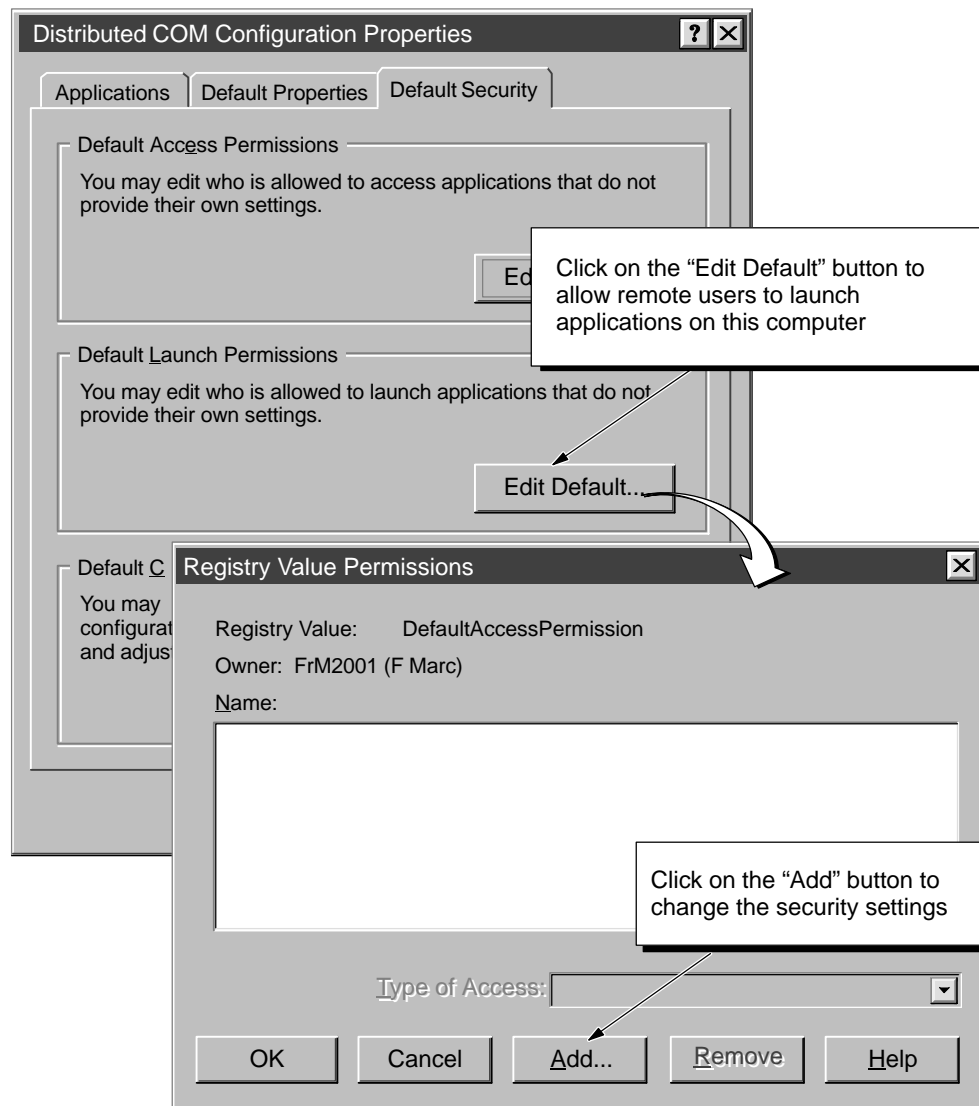

Figure E-17 Configuring the Default Launch Permissions for DCOM
1. Click on the “Edit Default” button for “Default Launch Permissions” to display the “Registry Value Permissions” dialog box. See Figure E-17.